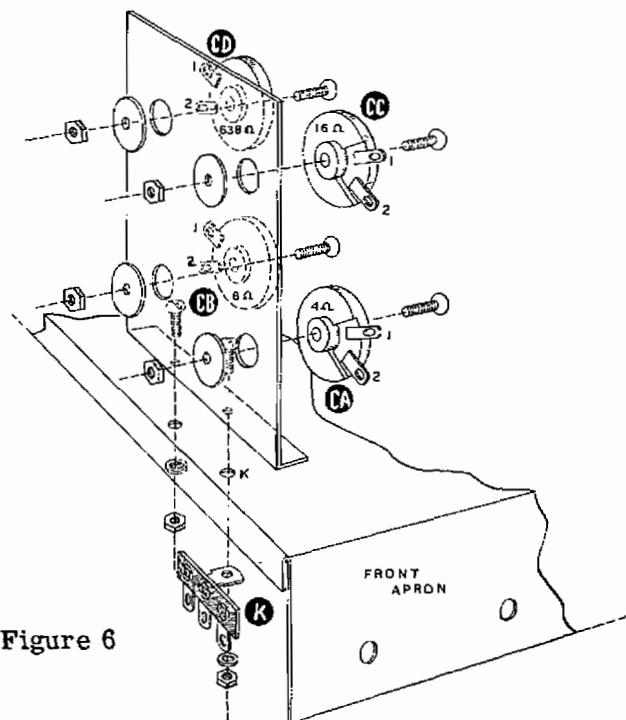

Figure 6
- Mount four power resistors on the bracket as shown in Figure 6. A 10-32 flat head screw goes through each resistor, the bracket, a large washer and 10-32 nut. Note that the resistors mount inside the bracket. Place the 4  $\Omega$  unit at CA, 8  $\Omega$  at CB, 16  $\Omega$  at CC and 638  $\Omega$  at CD. Bend the resistor lugs back slightly to prevent shorting to the bracket.